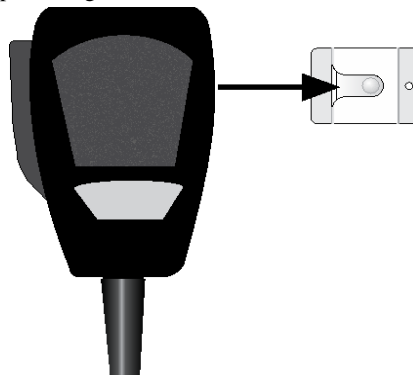

Figure 1.5 Sliding Microphone into Microphone Clip
1. Clip the microphone into the microphone clip. See Figure 1.5.